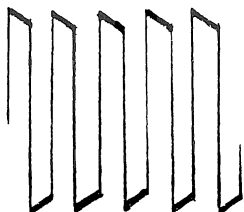

Fig. 7-1. Severe "tilt" to Calibrator waveform injected through EP53A, indicating defective input amplifier tubes. (Sweep: 2 msec/cm.)
7.1.2 Input Stage Check: Install voltage-measurement plug-in. Center free-running trace and measure bias in input stage of main vertical amplifier. Measure between grid and cathode of each input stage tube (6AW8 or 12BY7A). If less than 1.0 volt or more than 2.0 volts, replace both input amplifier tubes*. If this does not correct the bias, check to see that the DC level at pins 1 and 3 of the interconnecting socket are at $\pm 67 \text{ v} \pm 1 \text{ v}$. If not, use another plug-in. Now, install Type EP53A Gain Adj adapter between the plug-in and the oscilloscope. Apply 0.2 v of Calibrator waveform to the EP53A banana jack, using banana patch lead. Adjust triggering controls for stable display at 2 msec/cm. Check for slope of top of waveform (Fig. 7-1). Top of waveform should be substantially flat. Note apparent condition of tubes in Cal Record.